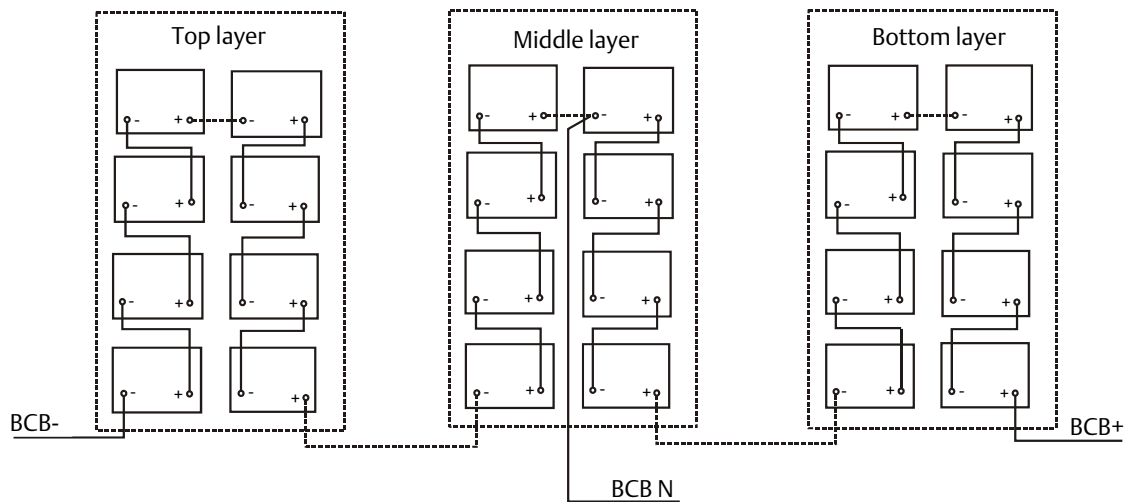

Figure 6-1 Battery cable connection
8. Refer to Figure 6-1 for the battery cable connection.